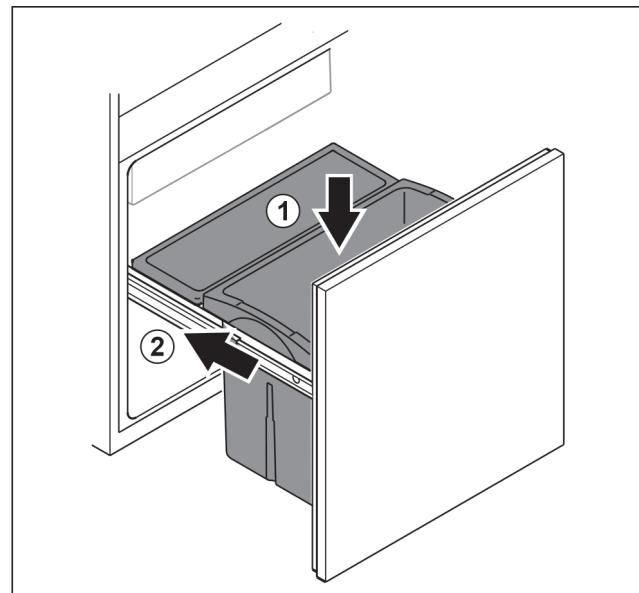

Fig. 102
- Insert drawer from above. Fig. 102 (1)
- Slide in pull-out unit. Fig. 102 (2)